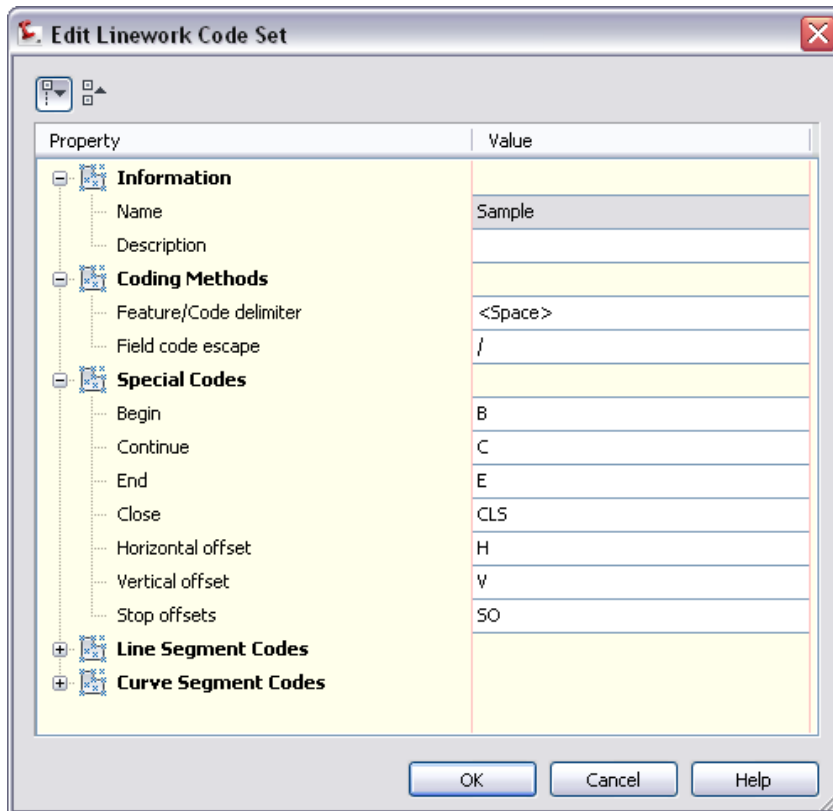

Figure 1: Specify coding methods for consistency
- 3 Use the Edit Linework Code Set dialog box, as shown in figure 1, to specify coding methods and to edit special codes, line segment codes, and curve segment codes.